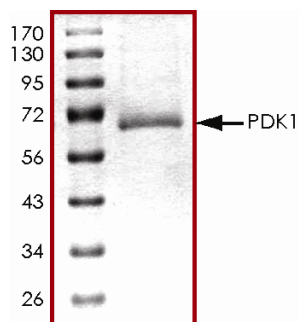

Figure 1: The approximate molecular weight is 67 kDa and the purity is > 90%.
- Molecular Mass** ♦ The approximate molecular weight is 67 kDa (see Figure 1 below).
- Purity** ♦ The purity was determined to be > 90% by densitometry (see Figure 1 below).